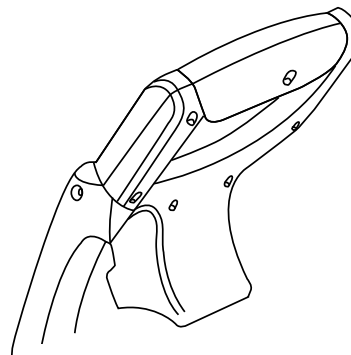

Figure 9
1. To turn the switch ON, squeeze the trigger switch until the chop saw starts. During operation, you should continue to squeeze the trigger switch. (Figure 9)